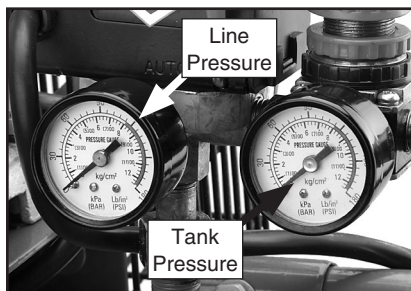

Figure 9. G0471 Pressure gauges.
7. Check the tank pressure gauge (**Figure 9**) to see that the tank pressure climbs to approximately 110-120 PSI (around 8 BAR) and turns **OFF**.